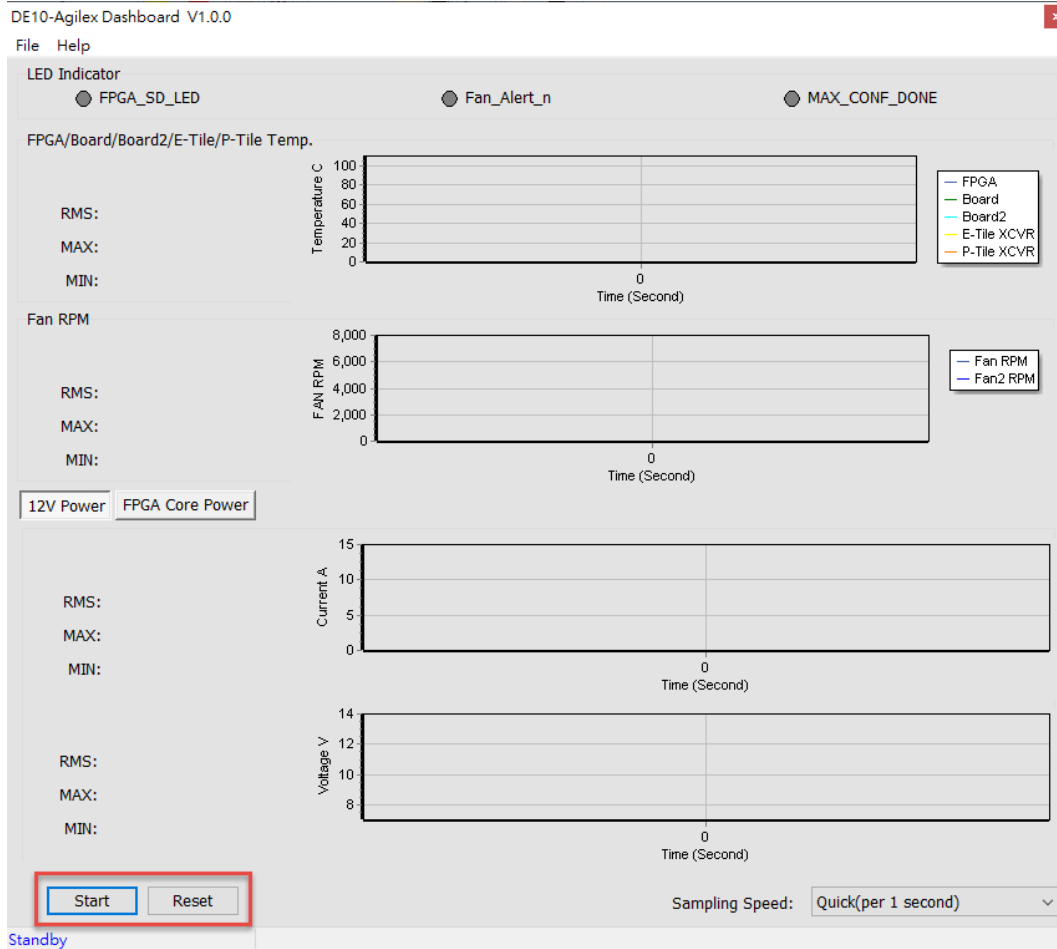

Figure 10-7 Start and Reset button
- **Start/Stop:** As shown in Figure 10-7, there is a Start button at the bottom-left of the GUI window. Click it to run the program (Start will change to Stop), it will show the DE10-Agilex board status. Users can press Stop button to stop the status data transmission and display.